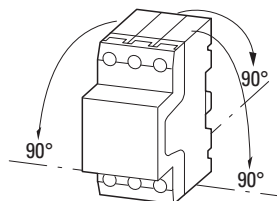

Figure 7: Permitted mounting position of the PKZM4-.../XTPR...DC1 motor-protective circuit-breaker
- ▶ Mount the motor protective circuit breaker only as shown in figure 7.